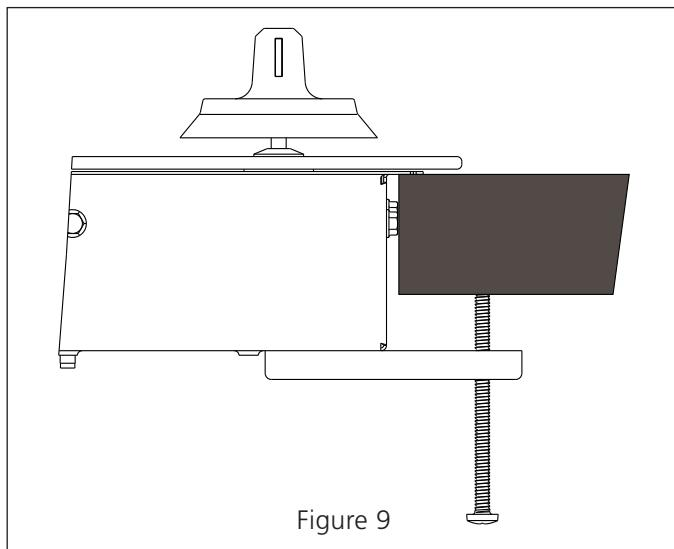

Figure 9
4. Secure the cooktop to the countertop. See Figure 9.